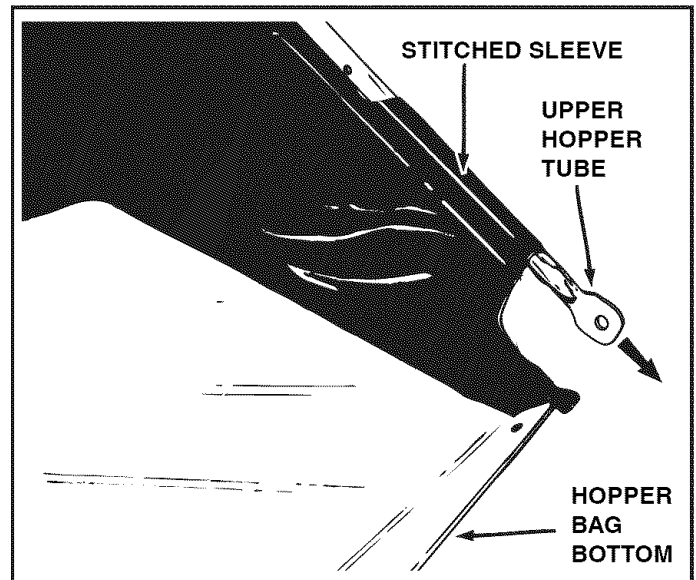

FIGURE 9
- Insert the ends of the assembled upper hopper tubes down through the stitched sleeves in the sides of the hopper bag and then slide the tubes back underneath the wind screen. See figure 9.